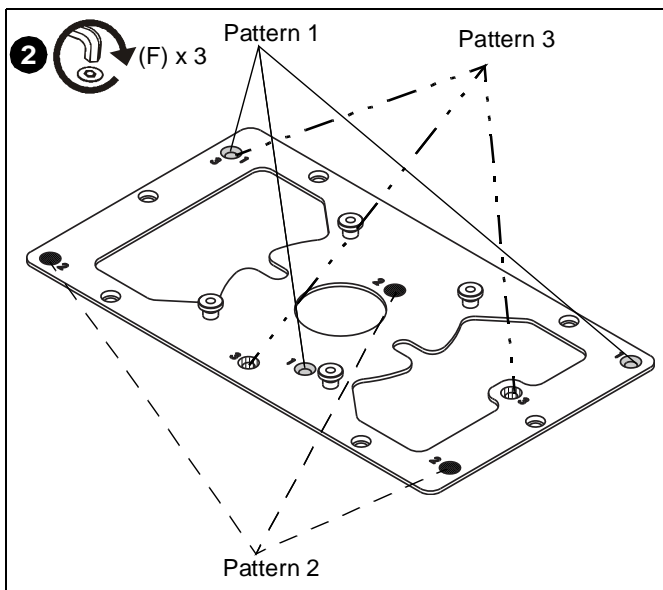

Figure 3
2. Secure small adapter plate (B) to projector using three security flat head screws (F) and three spacers (G) in attachment holes marked with a "1", "2" or "3". (See Figure 3) Proceed to **Attaching to Projector Mount** section.